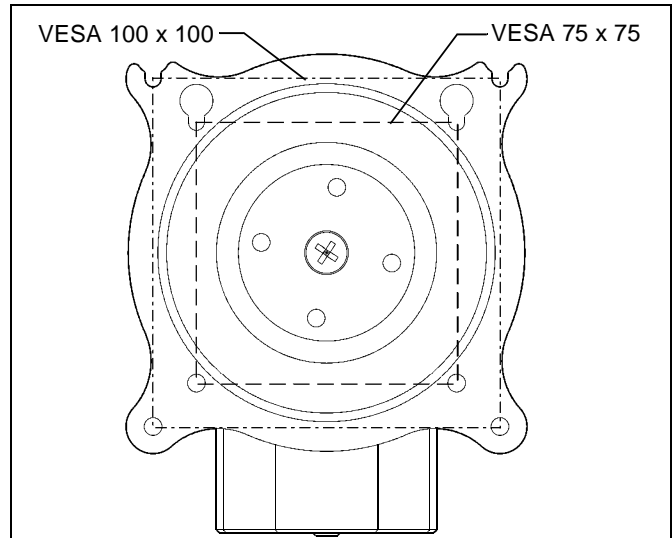

Figure 3
1. Determine mounting pattern on display. (See Figure 3)
**NOTE:** If the display does **NOT** have a 75 x75 or 100 x 100 VESA mounting pattern, an interface bracket will be required. The FHSV mount comes with a 200 x 100 interface bracket (J). Proceed to **Step 2**.